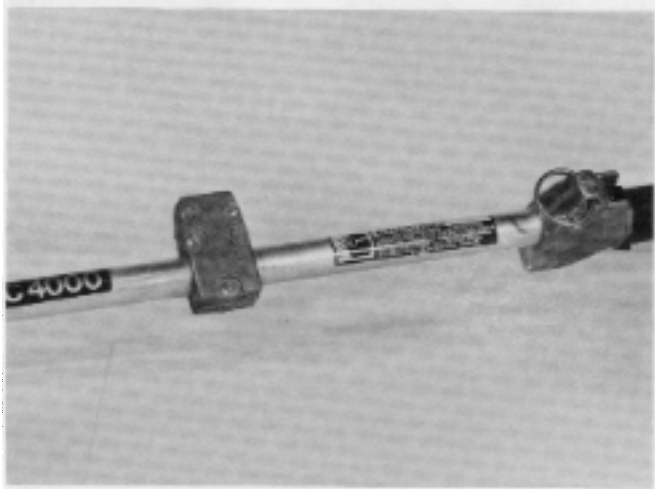

Figure 115
1. Position the handle mount halves on the drive tube between the eye protection and the TC4000 decals. See Figure 115.